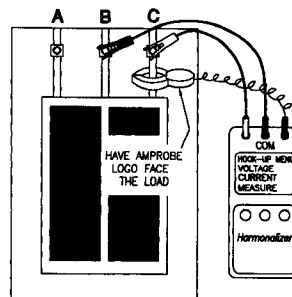

Figure 2
- c. Attach the other ('hot') voltage lead to the 'C' lug. (See Figure 2).